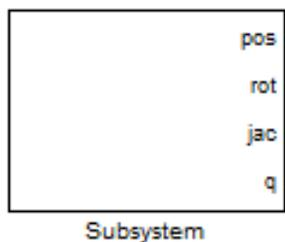

Figure 8.6: Modified subsystem
- (e) Click on the Go to parent system button on the Simulink toolbar to return to the root model. The subsystem should now resemble Figure 8.6.